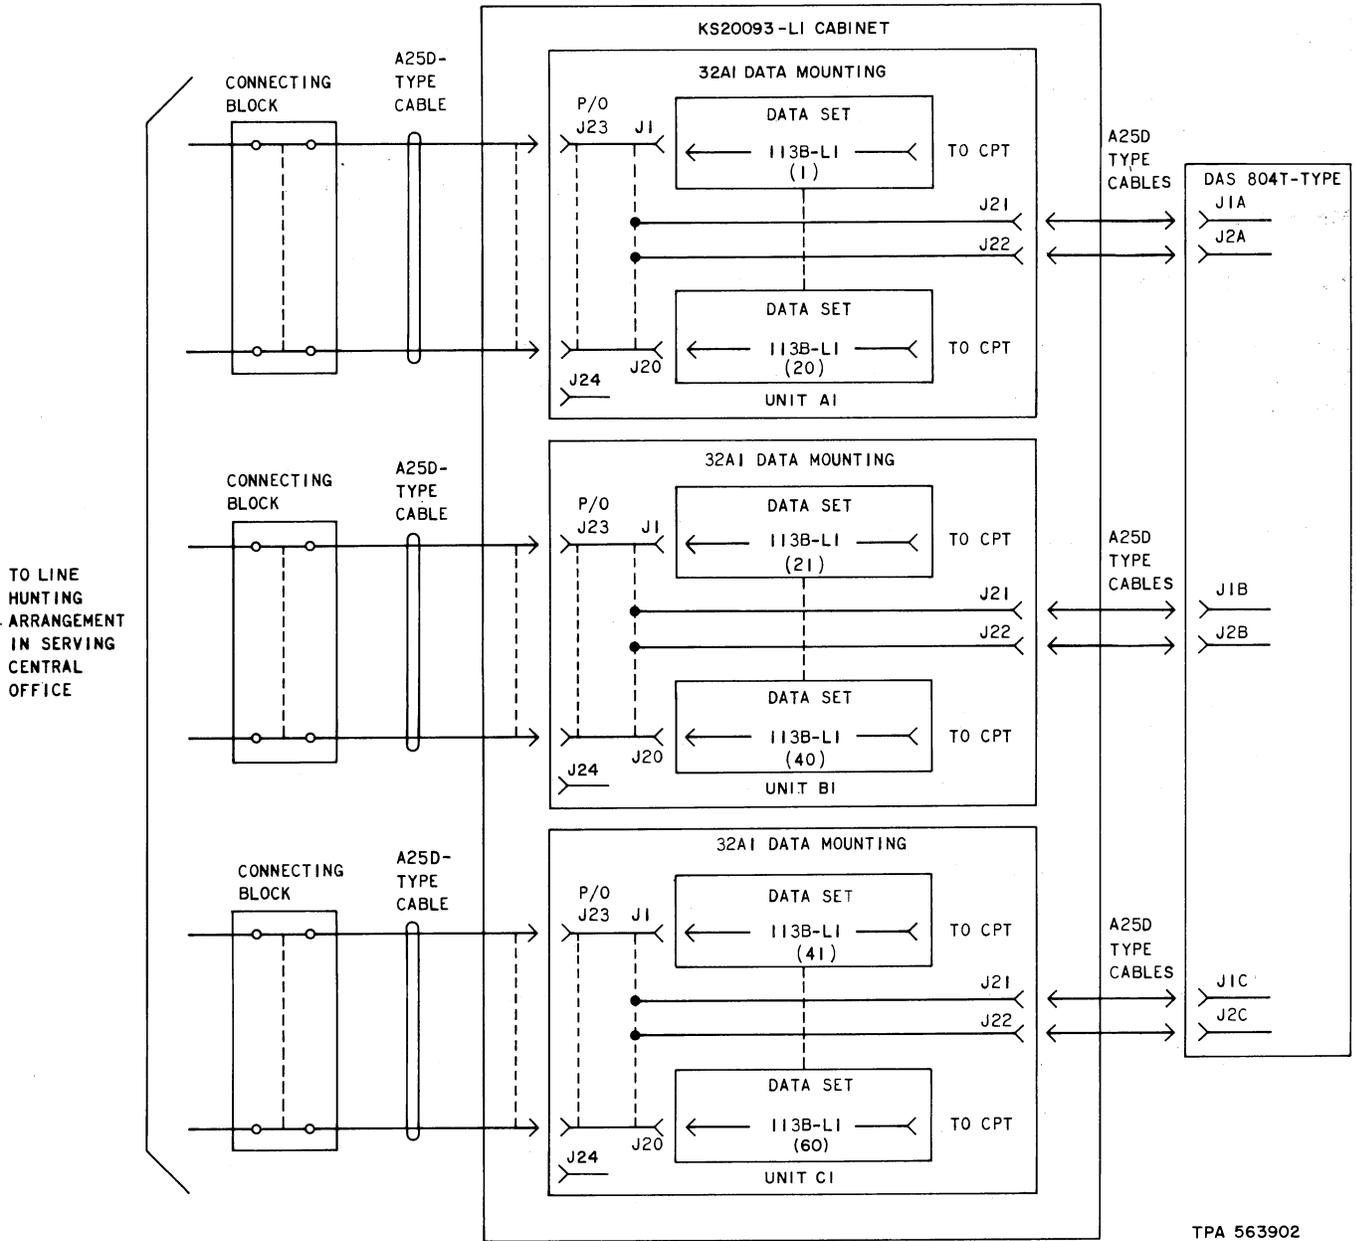

Fig. 5—113-Type Data Station—Block Diagram
3.02 A block diagram of a typical 113-type data station shown in Fig. 5 consists of sixty